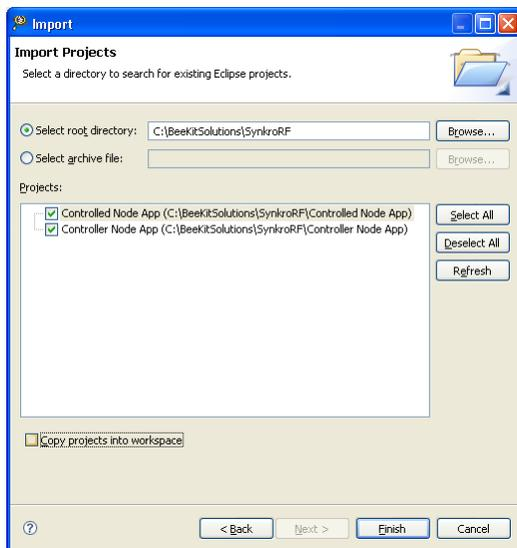

Figure 2-18. CodeWarrior Import Projects Window
5. CodeWarrior searches this folder and all subfolders for valid projects and displays the results as shown in Figure 2-18.